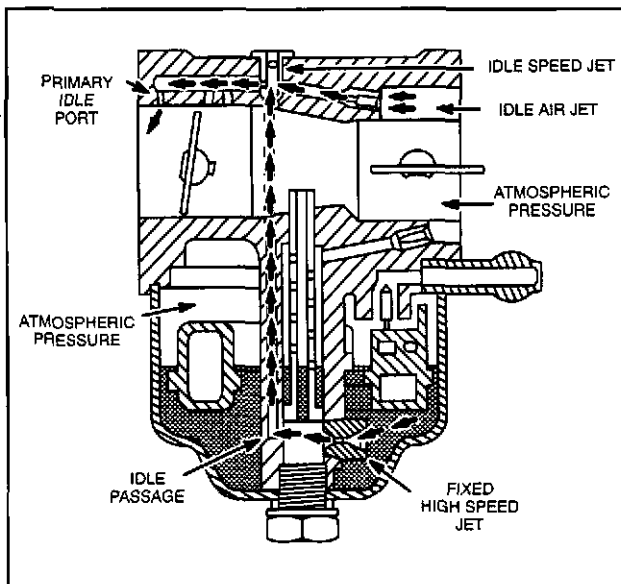

Fig. 6 - Idle System Operation (Typical)
1. As the piston moves down in the cylinder when the intake valve is open, a partial vacuum forms between the throttle valve and the top of the piston. Atmospheric pressure in the carburetor bowl pushes fuel through the fixed high speed jet, Fig. 6 and up the idle passage. Atmospheric pressure also pushes air into the throat of the carburetor.
2. Atmospheric pressure also enters through the idle air jet, Fig. 6.
4. This air/fuel mixture then is pushed to the primary idle port and out into the carburetor throat. There it mixes with air flowing through the throat and is carried into the cylinders, Fig. 6.